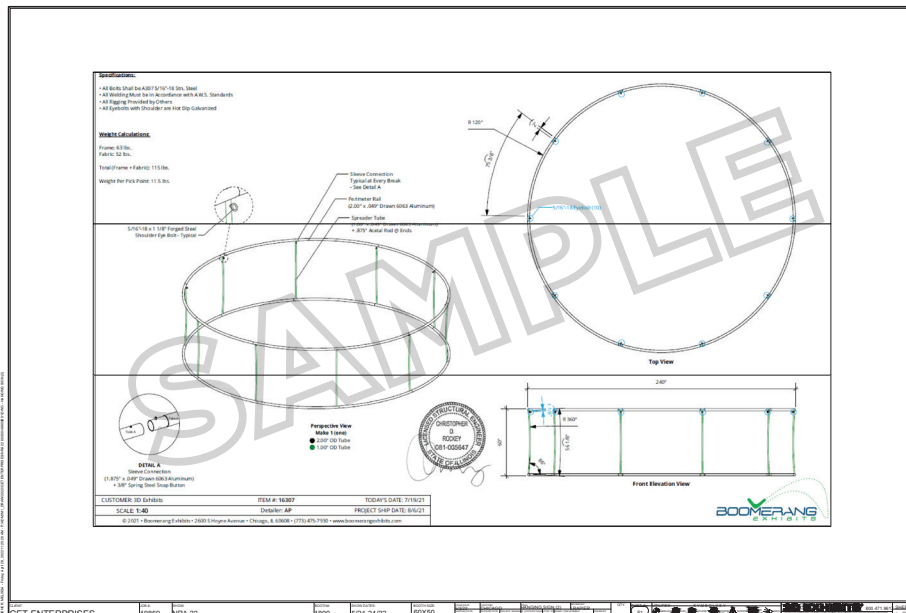
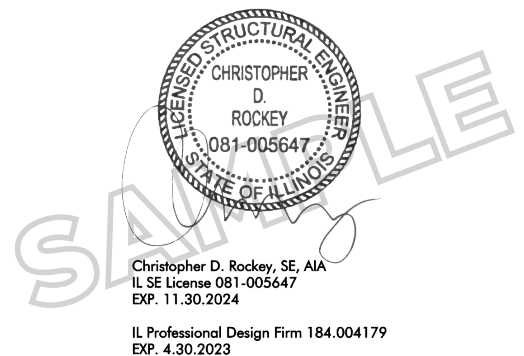

Fig. 1a
Fig. 1b Structural engineer's seal of approval.
5. All equipment, signs, products, etc. must be designed to suspend safely. Signs must be accompanied by a structural engineer's seal of approval. (See **Fig. 1a** & **Fig. 1b** to view examples)